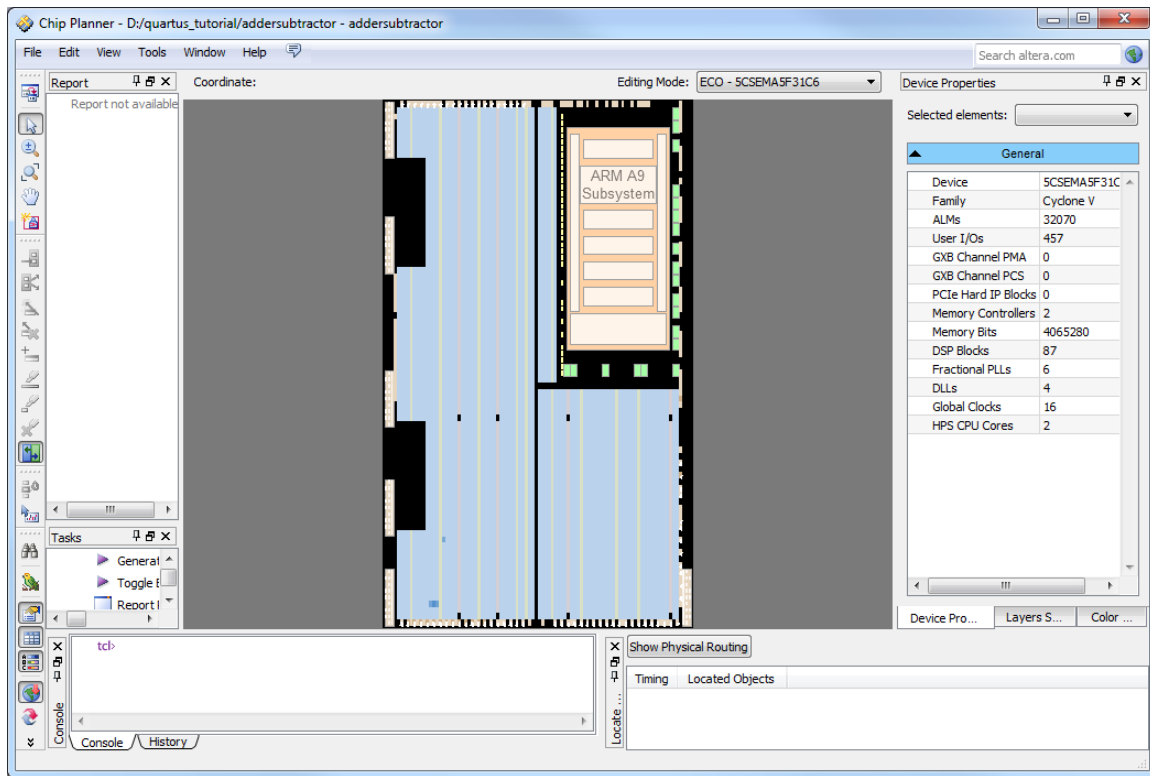

Figure 24: View of the floorplan.
5. An indication of where the circuit is implemented on the chip is available by selecting **Tools > Chip Planner(Floorplan and Chip Editor)**, or by clicking on the icon . This opens the Chip Planner display, as shown in Figure 24. This display highlights the location of the logic elements used to implement the circuit. To make the image appear as shown in Figure 24 you may have to select **View > Fit in Window** (shortcut **Ctrl-Alt-w**).
3. Right-click on the same name and choose **Locate > Locate in Chip Planner(Floorplan & Chip Editor)** from the pop-up menu that appears. This causes the Quartus® II software to display the floorplan, as in Figure 24, and highlight the part that implements the adder subcircuit.